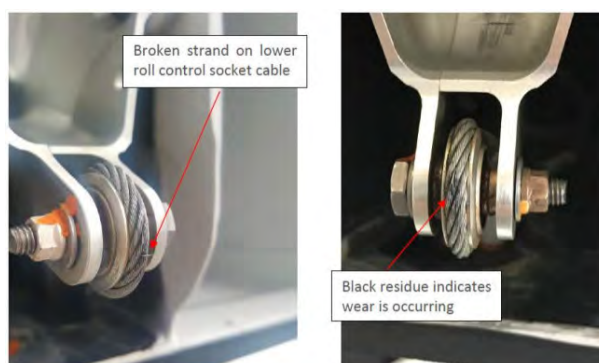

FIGURE 10-4
1. Inspect cables for broken strands. Any cable assembly that has at least one broken wire strand located in a critical fatigue area must be replaced. See Figure 10-4. The following are critical fatigue areas:
- a. If there is evidence of wear on the rod end or the roll control cable as shown in Figure 10-4 carefully inspect the end of the roll control cable for any broken strands.